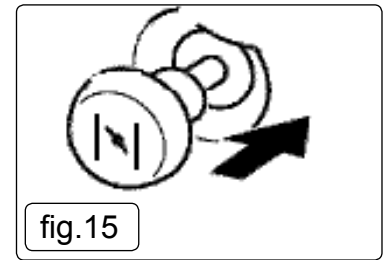

fig.15
- 4.10.6. After the engine starts, let the engine warm up until the engine does not stop when the choke knob is returned to the original position fig.15.